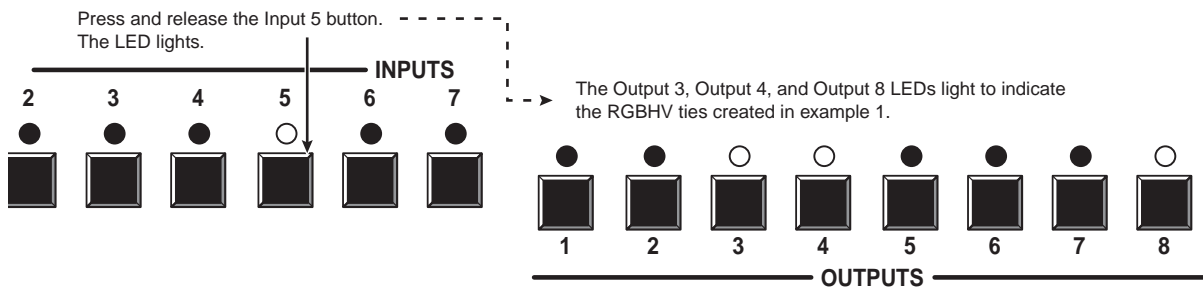

Figure 3-12 — Select an input
3. Press and release the input 5 button (figure 3-12).